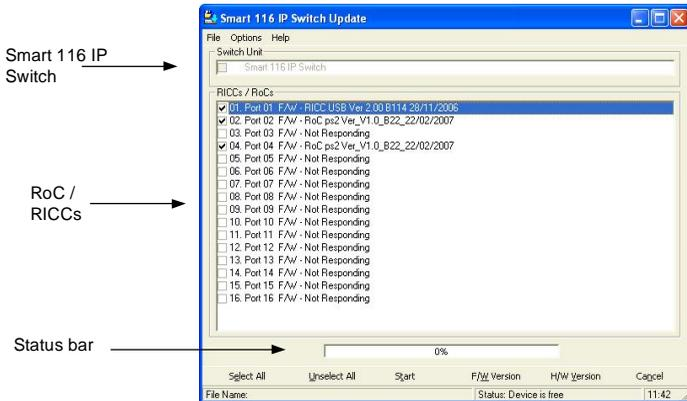

Figure 60 Update window
1. Start the Update software by double-clicking the icon on your desktop or choose Start/Programs/Smart CAT5 Switch Update/ Smart CAT5 Switch Update. The Smart CAT5 Switch Update window appears. See Figure 60. Where the ROCs do not appear, select Options/Get RICC's.
- In the Update window, check the Manager Unit. See Figure 60.